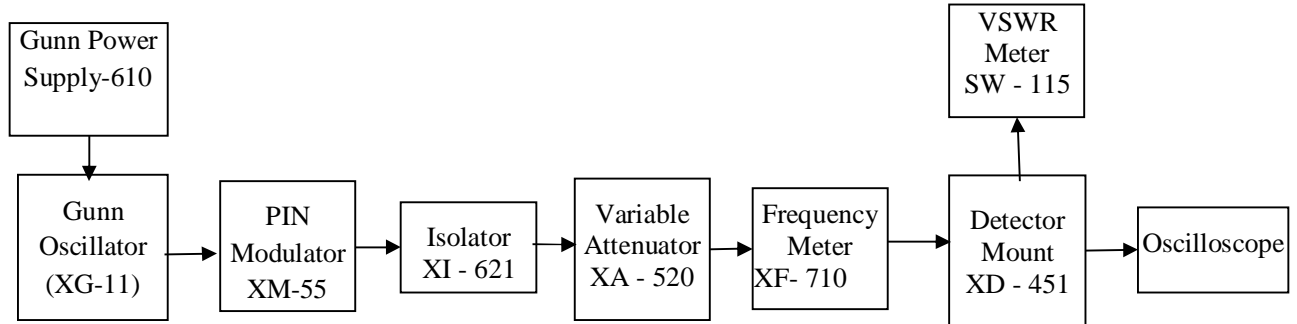

Fig.2.1 Experimental setup to Study I-V characteristics of Gunn diode
1. Set up the equipment as shown in Fig.2.1.